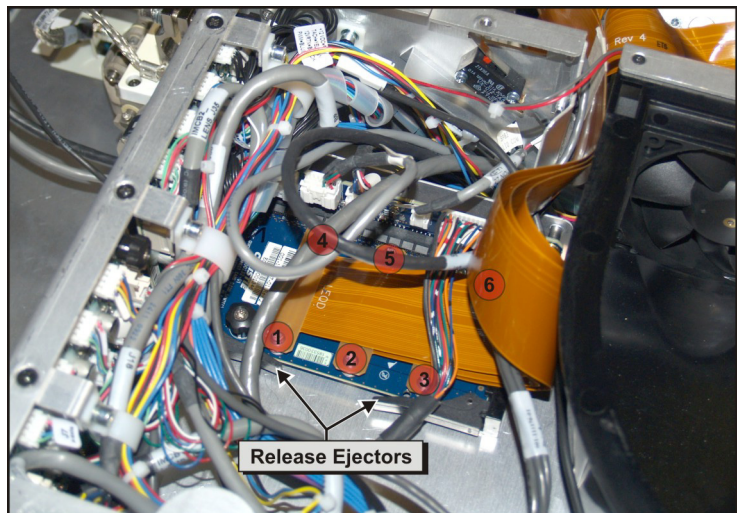

Figure 5-58 Remove LEQD
4. Release the two black ejectors to disconnect the LEQD from the Backplane. Pull the LEQD out. Disconnect the three LVDS/power harnesses. (**Figure 5-58**)
5. Remove the six screws securing the flex cables. (**Figure 5-58**)